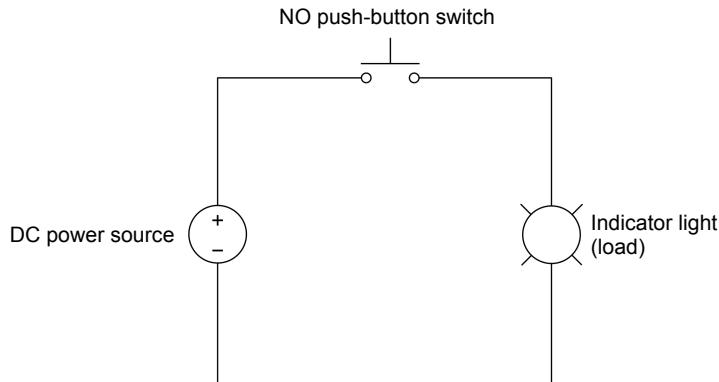

Figure 29. DC power source connected to an indicator light and an NO push-button switch (circuit diagram).
**14.** In the circuit of Figure 29, replace the NO push-button switch by a normally closed (NC) push-button switch. This results in the following circuit. Figure 32 shows the corresponding wiring diagram.